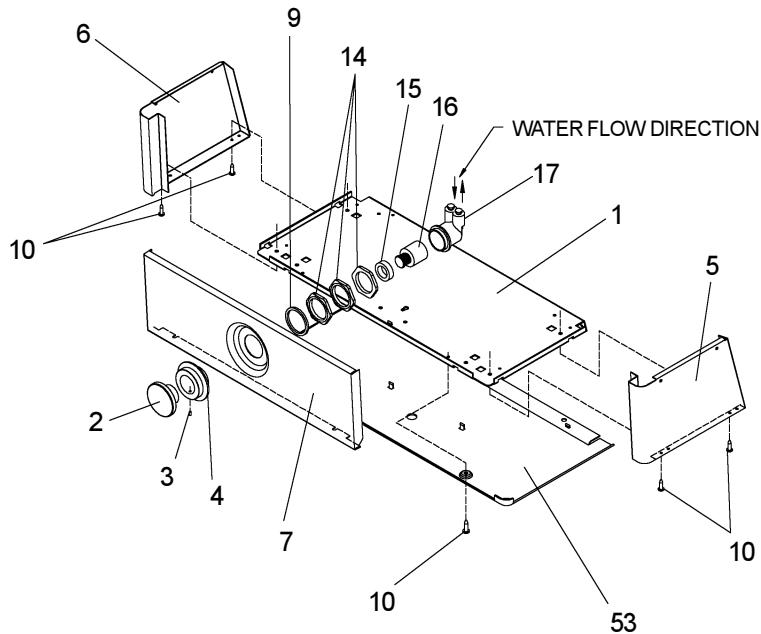

FIG. 3
See Fig. 3 (Page 3) For
- 8) Stream height is factory set at 45-50 PSI. If supply pressure varies greatly from this, adjust screw, accessible by removing Item 2, Fig. 3. CW adjustment will raise stream and CCW adjustment will lower stream. For best adjustment, stream should hit basin approximately 6-1/2" (165mm) from bubbler.